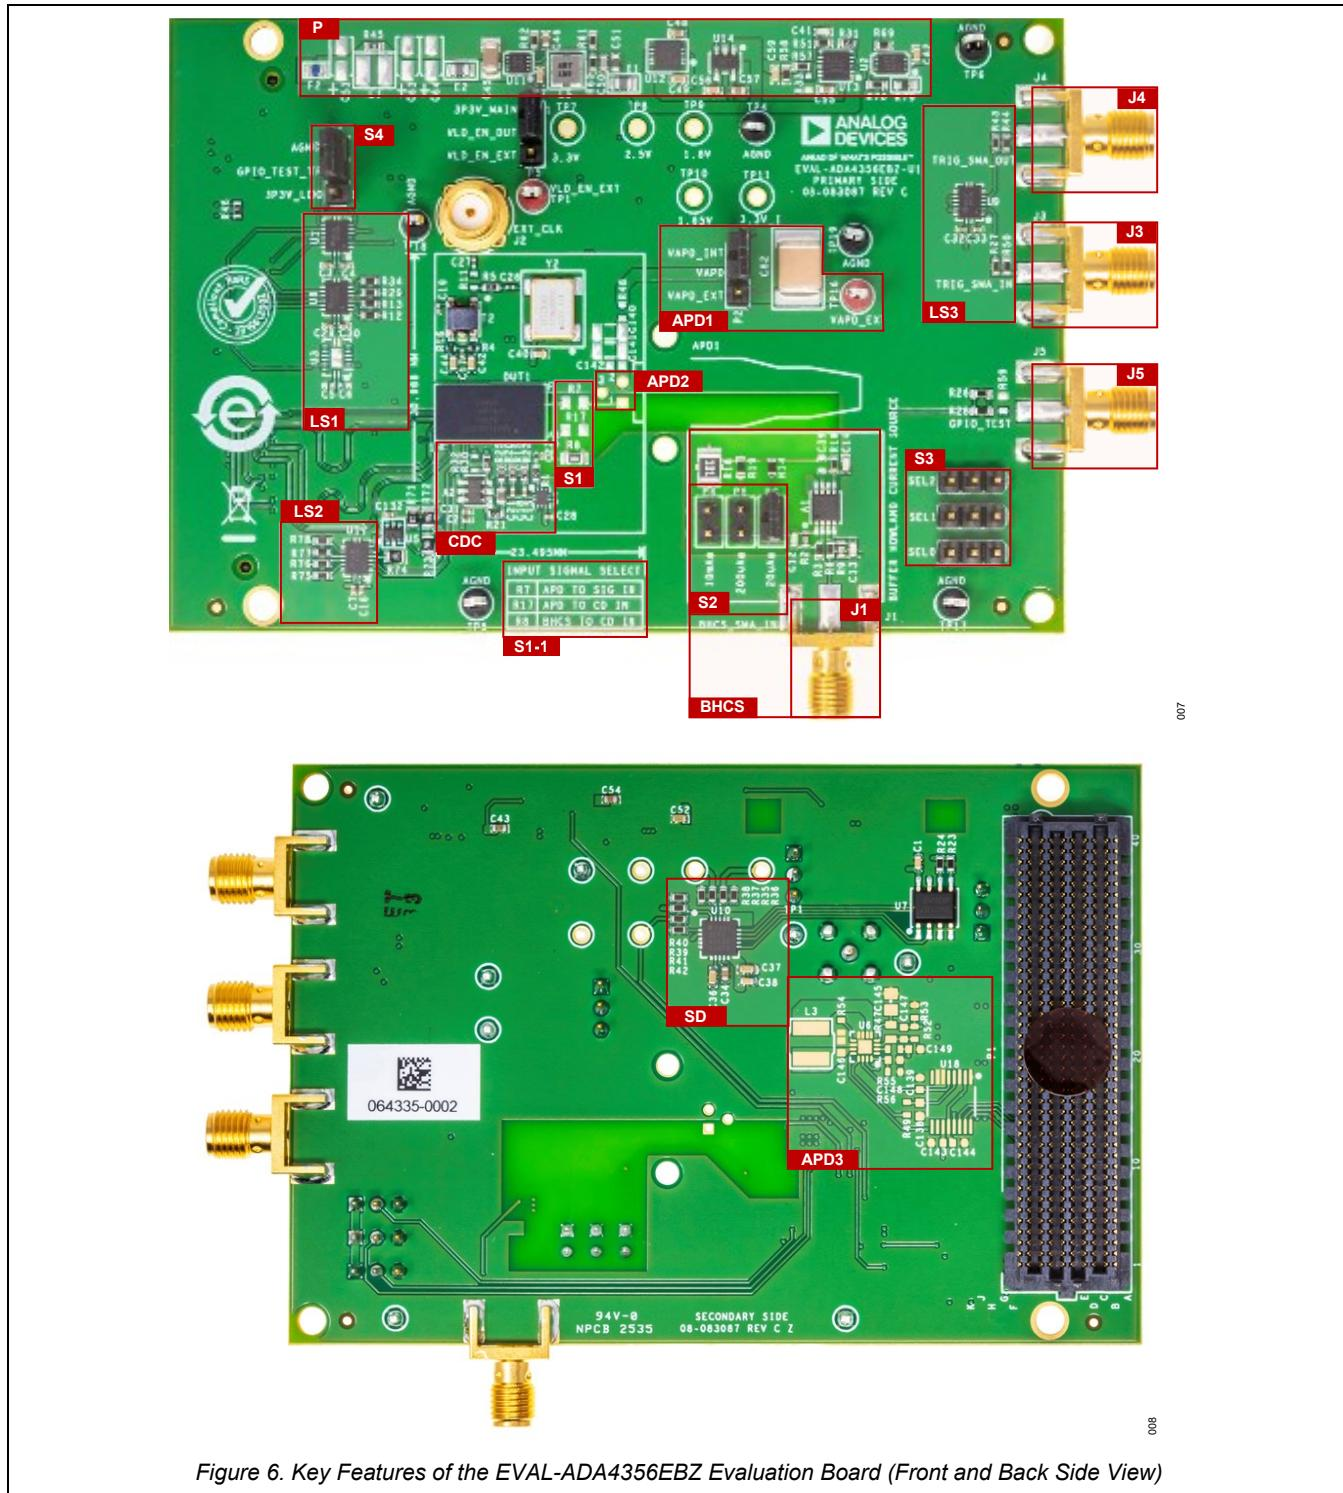
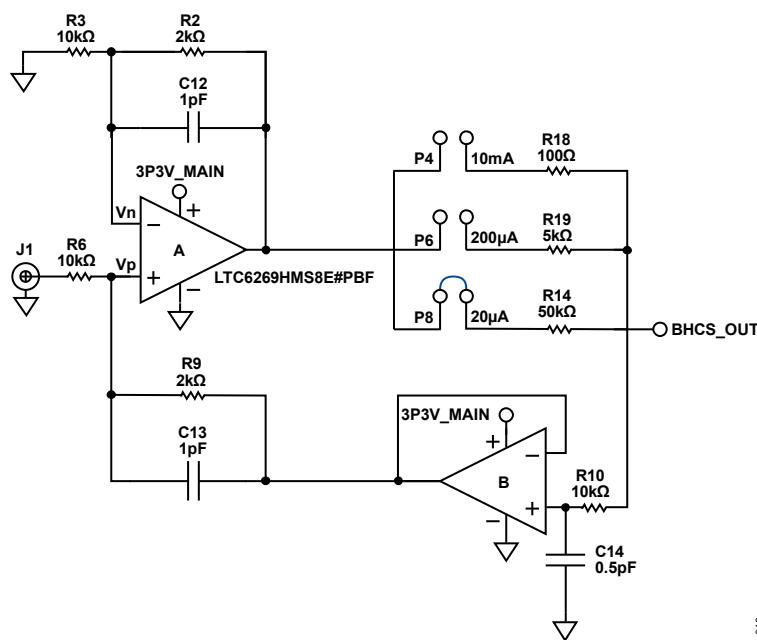

Figure 6. Key Features of the EVAL-ADA4356EBZ Evaluation Board (Front and Back Side View)
Figure 8. Buffered Howland Current Source Circuit
The EVAL-ADA4356EBZ evaluation board contains circuits that allow for the evaluation of the ADA4356's key features as well as eliminating the need for complicated test bench setup. Figure 6 shows the components of the EVAL-ADA4356EBZ's key circuits and features, their purpose is briefly described in Table 2 and explained in-depth in each feature's subsection.
A fuse is installed between the FMC connector and the rest of the EVAL-ADA4356EBZ's circuitry, serving as the board's primary line of defense against unwanted current surge in an event of unintended disruption in connectivity. The installed fuse, F0603E0R50FSTR, is a fast blow 500mA fuse in a 0603 SMT package, located in the upper corner of the board, designated as F2, as shown in Figure 6.
Both input options connect to the current divider circuit, which can be enabled to activate range extension, thus bringing down a high input current to the ADA4356's linear input current region. The input can be selected by installing one 0Ω resistor on either R7, R17, or R8; the input source selection table is printed on the board, as shown in Figure 6's S1-1 designation. The input path options are detailed in Table 5.
The current source available in the EVAL-ADA4356EBZ is configured as a BHCS using LTC6269, where one channel, amplifier A, is set as a difference amplifier, and the other channel, amplifier B, is set as a buffer. The circuit accepts a voltage input through the J1, an SMA port, as shown in Figure 6, and produces a scaled current output based on selected setting.
Figure 8 shows the BHCS circuit used in the EVAL-ADA4356EBZ and the equation 1 shows how the proper resistor is selected given a 5Vpp input signal.
As shown in Figure 6 and Figure 8, the EVAL-ADA4356EBZ has three different levels of current that can be selected by installing a jumper on either of these headers: (1) 20 μ A for P8, (2) 200 μ A for P6, and (3) 1mA for P4. Table 6 summarizes the BHCS configuration. These currents assume an input of 5V at J1. Higher or lower voltage inputs produce different output currents than labeled.
The EVAL-ADA4356EBZ has a footprint available for a three-pin avalanche photodiode, located at designator APD2 from Figure 6, as well as provisions for an internally sourced APD bias based on the footprints and pin configurations of LT3571 (a boost converter) and AD5142 (a digital potentiometer), located at designator APD3 in Figure 6.
Along with the primary digital control for gain selection, the EVAL-ADA4356EBZ also provides an analog way to select the required gain setting. The gain selection section designated as S_3 in Figure 6 allows for manual control once populated with three sets of 3-pin headers. Table 7 shows how these pins can be configured to enable the required settings.